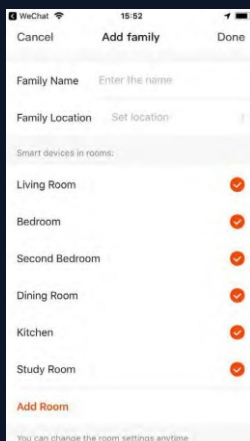

Fig. 1
1. When logged in, click **"Create family"** to go to the **"Add family"** page, as shown in Fig. 1.